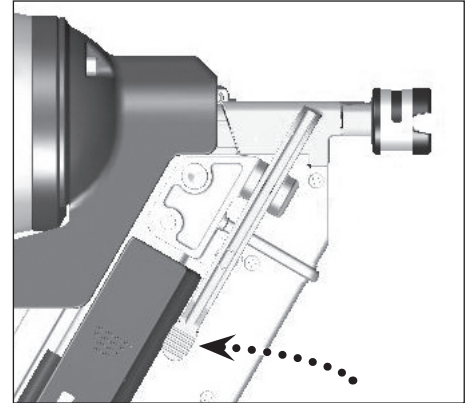

Figure 22 - Quick Clear Nose Lever
3. Press down on the Quick-Clear Nose (QCN) lever to disengage portion of nose barrel (See Figure 22).